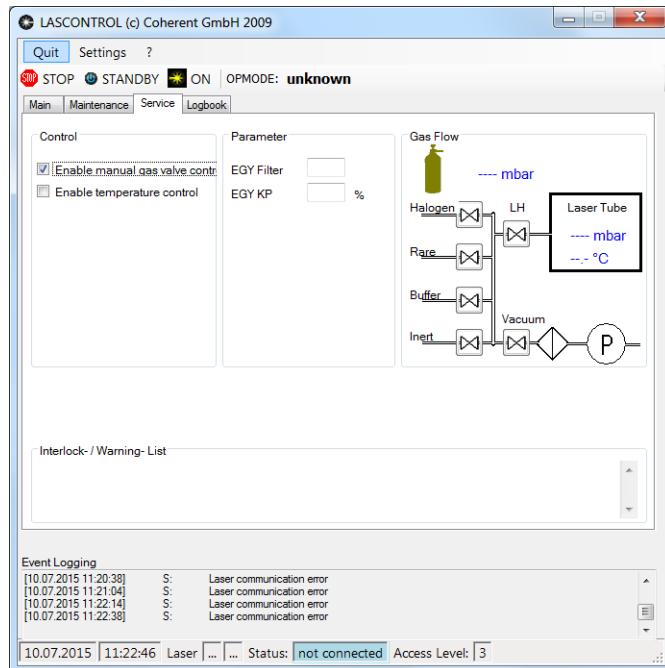

Figure 154: LASCONTROL Service menu
21. Use the LASCONTROL software Service menu (see Figure 154) to fill the BUFFER line to approx. 4 bar (abs.).